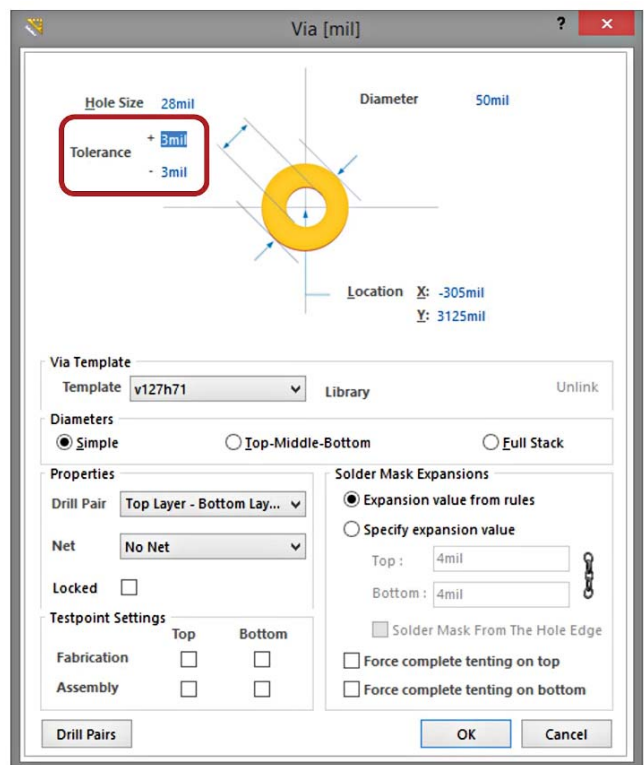

Figure 2: Hole tolerance can also be specified in the **Via Properties** dialog
- In the **Via Properties** dialog, hole tolerance can be edited using **Tolerance**, in the top left-hand corner of the dialog (Figure 2).